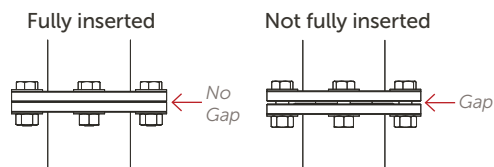

Figure 8.
2. If the cartridge is not fully inserted, the top housing flange will leave a gap between it and the bottom housing flange. In this case, return to Step 2. Cartridge Assembly and press the cartridge deeper until it is fully inserted, Figure 8.